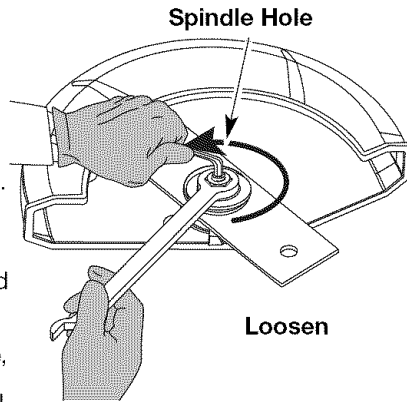

Fig. 19
1. Place a 5/16" Allen wrench in the spindle hole (Fig. 19).
2. While holding the Allen wrench in place, loosen the nut with a 15/16" wrench by turning it counterclockwise (Fig. 19).